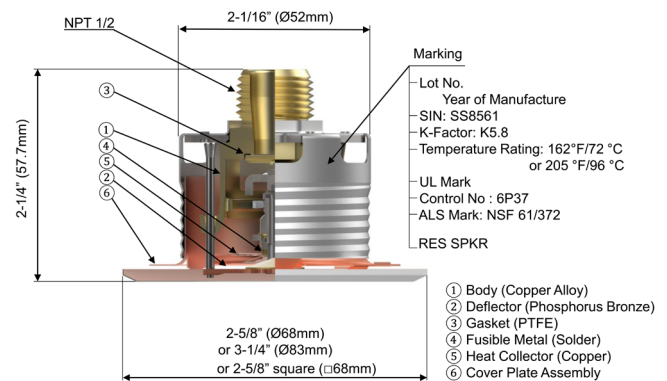

Figure 1: Model RC-RES K = 5.8
• Physical Characteristics: Ref. Figures 1 and 1.1